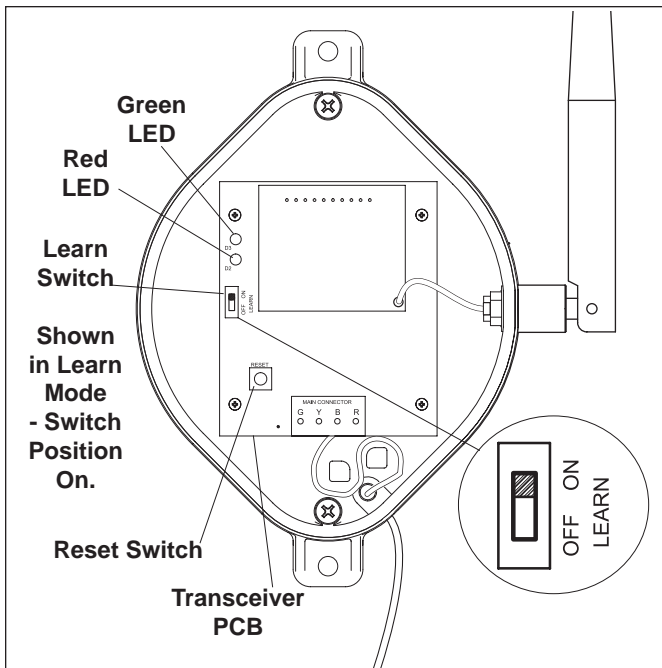

Figure 22. Transceiver J-box PCB Learn Switch
5. At the PCB in the Transceiver J-box, slide the Learn Switch to LEARN (ON). See Figure 22.
7. At the PCB in the Transceiver J-box, slide the Learn Switch out of LEARN and press the Reset Switch. The Red and Green LEDs on the J-box will blink simultaneously (see Figure 22).